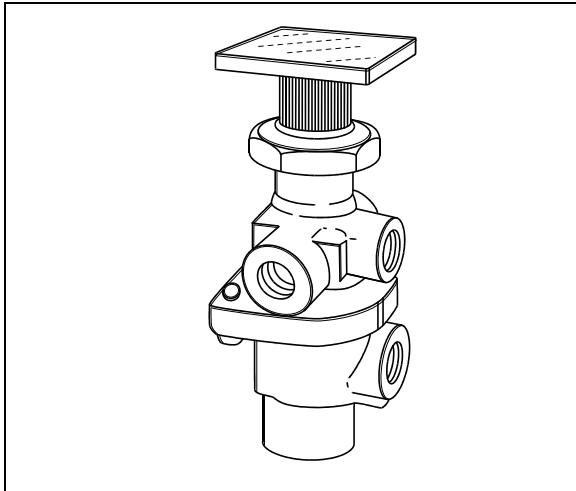

FIGURE 9: PP-1 12142
2. Access this valve by tearing out the finishing panel, which holds the controls in place (Fig. 9).